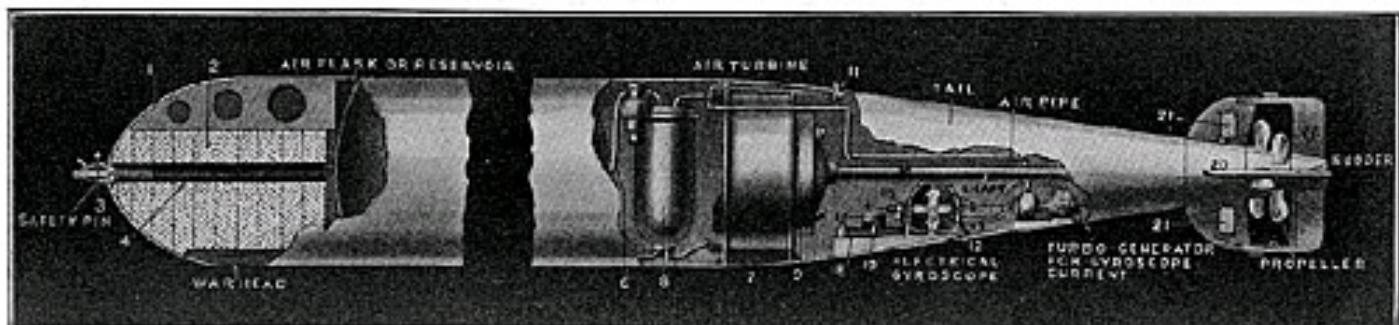

Fig. 1. Semi-Sectional View of Latest Type Automobile Torpedo.
This self-propelling demon is shown at Fig. 1 with its clever device for steering and diving. It measures 22 feet long and 21 inches in diameter, with a weight of one ton. This modern fighting
The "war-head" (1), Fig. 1, differs from the "practice-head" and is used only in actual fighting. It is loaded with a charge of gunpowder (2) containing 25 per cent. moisture. At 4 is the detonating charge, which is fired by the plunger or striking rod 3. A safety pin is provided at the end of the plunger, as depicted, this being used for safety when loading the torpedo in the firing tube.
The central flask or air reservoir 6 (Fig. 1) is connected to the turbine through the superheater 8. This turbine is connected to a reducer gear 9 and then to the propeller shaft 10 which operates the two propellers 20, 22. These are rotated in opposite directions. The power developed by the turbine is 110 horsepower and the shaft runs at 1,200 R.P.M., enabling the missile to travel at the rate of 35 to 40 knots, with an extreme range of 10,000 yards.